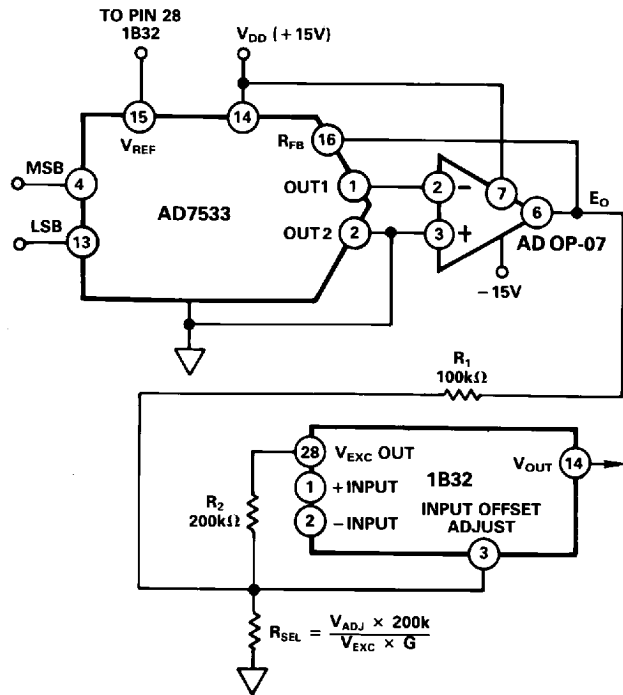

Figure 18. Output Offset Adjust Using a 10-Bit DAC
**Digital Output Offset Adjust:** A 10-bit multiplying DAC such as the AD7533 can be used to control the output offset of the 1B32 as shown in Figure 18. The DAC is configured for unipolar operation with an AD OP-07 generating a voltage output. This 0-10V output is attenuated by  $R_1$  and  $R_{SEL}$  and superposed on another fixed voltage derived from  $V_{EXC}$ . Thus the voltage at Pin 3 (INPUT OFFSET ADJUST) is insensitive to the tempo of the excitation voltage since it is also used as the reference of the DAC. For best performance  $R_1$  and  $R_2$  should track to ±5ppm/°C. As an example, a ±5V output adjustment can be obtained by using  $R_{SEL} = 200\Omega$  for  $G = 500$  and  $V_{EXC} = 10V$ .